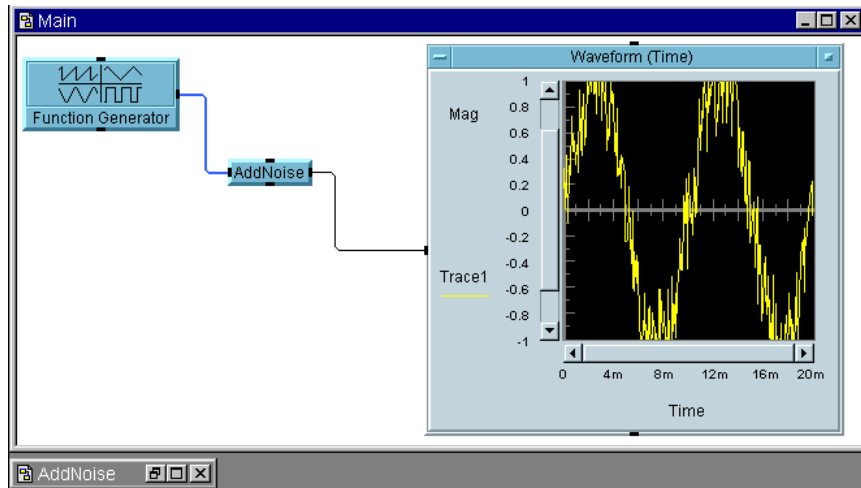

Figure 2-5. Noisy Cosine Wave
8. Click the **Run** button to display the noisy cosine wave as shown in Figure 2-5. Note that `AddNoise` is minimized, and appears in icon form at the bottom of the work space. To minimize `AddNoise`, click on the minimize button in its title bar, shown as the underline symbol (_).